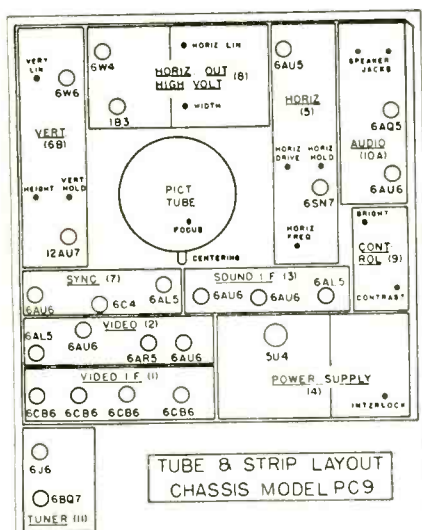

Fig. 1—Tube and printed circuit strip layout of Walsco Model PC9 TV receiver. Shown also are the various adjustment controls available for immediate adjustment.
1. Nine printed-circuit plug-in assemblies (see Fig. 1), each quickly removable.